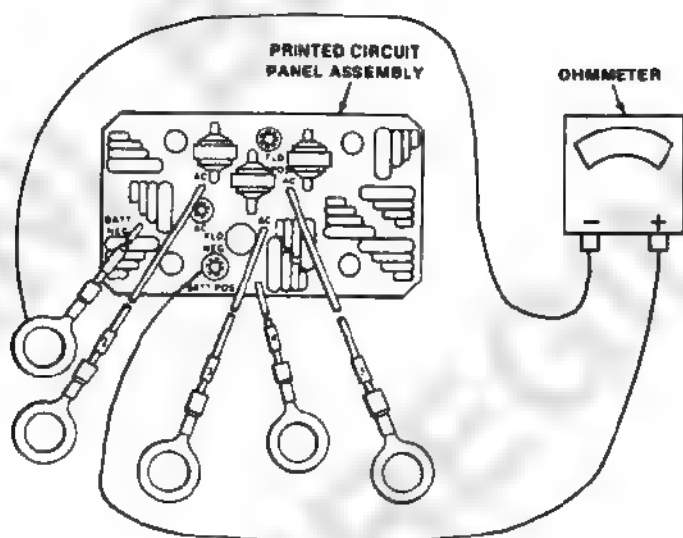

Figure 2-10. Shorted Printed Circuit Panel Assembly Capacitor Check
- Step 12. Check for shorted or high leakage capacitors between field negative and ground according to figure 2-10.